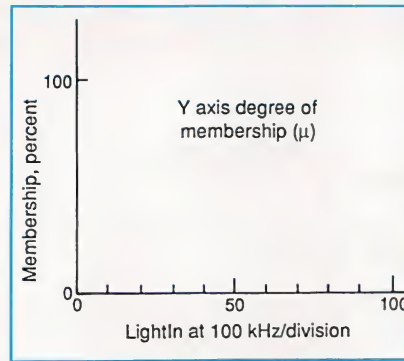

Fig. 6. Input graph for plotting degree of membership versus LightIn at 10 kHz/division.
• **Graphs.** Variables LightIn and LightOut each requires a separate graph. Fig 6 shows the graph for the input. The values for the X axis are the input values from the 555 timer. They start at 0 (room darkest) and end at 100,000 ohms (room lightest). The Y axis is called the degree of membership (fuzzy value). Most documenta-